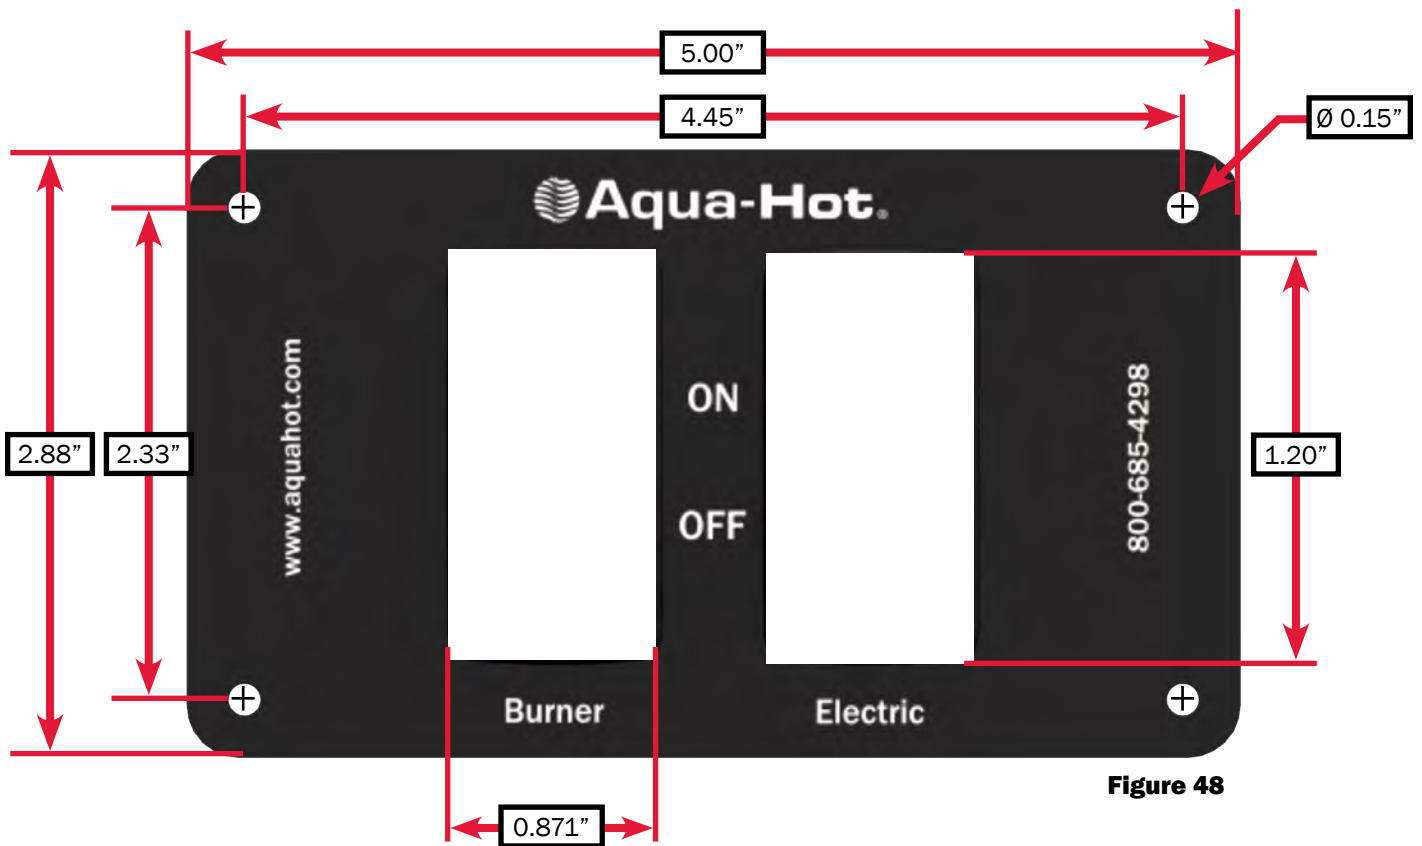

Figure 48
1. Cut out a 3.75” W x 1.25” H opening for the switch panel plate. Reference Figure 48.